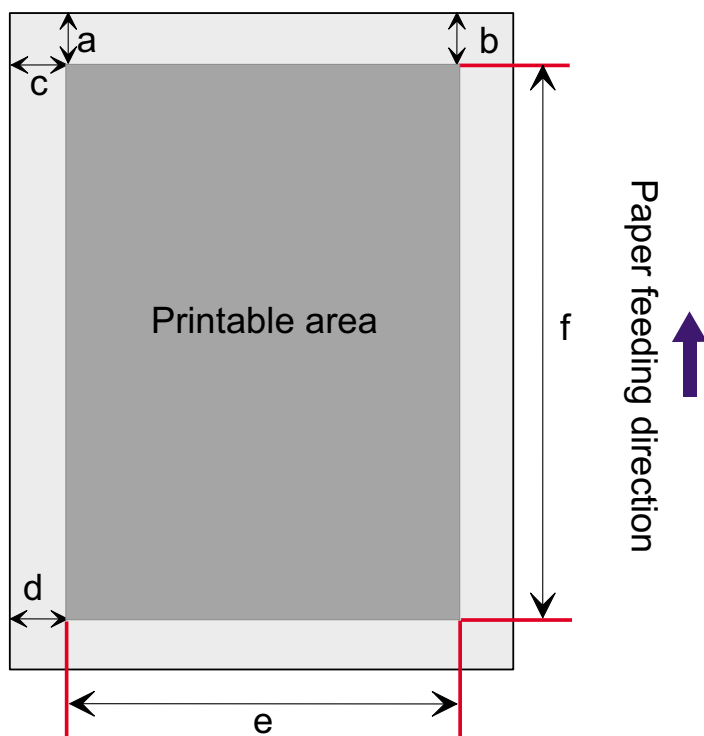

Figure 1-2. Paper Skew
- See Figure 1-2, "Paper Skew".
See Figure 1-2, "Paper Skew".